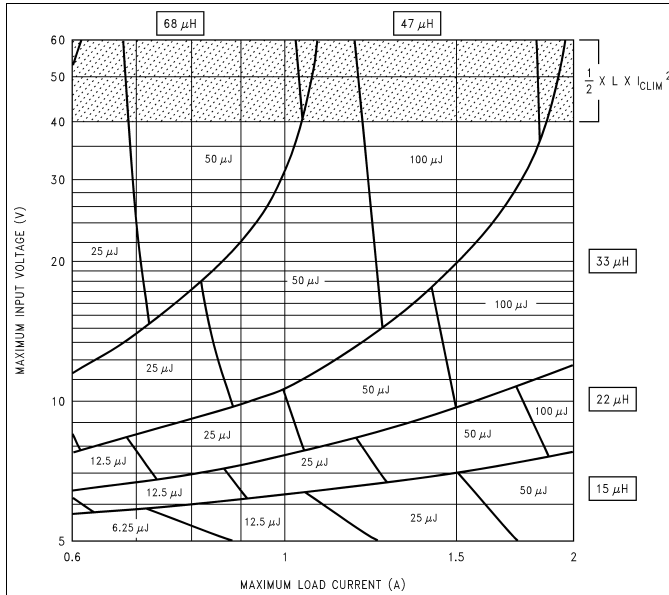
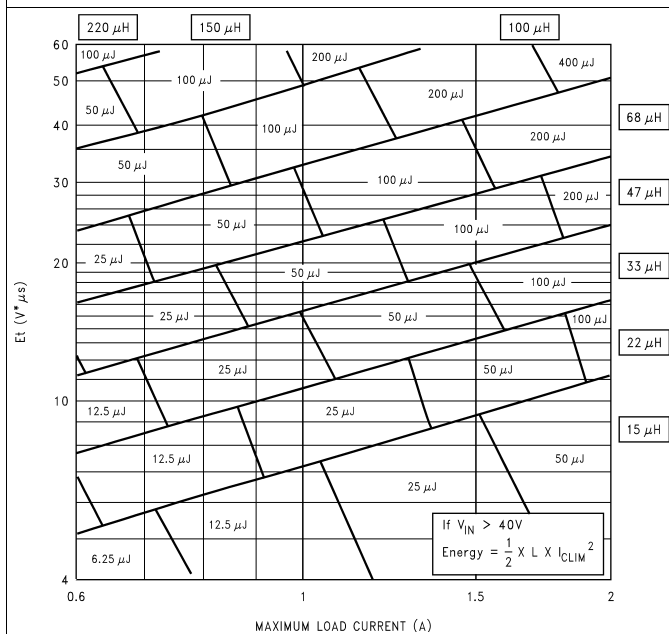

Figure 33. LM2593HV 3.3-V
Figure 35. LM2593HV Adjustable Voltage
See application note *AN-1197 Selecting Inductors for Buck Converters (SNVA038)* for detailed information on inductor selection. For a quick-start, see the nomographs provided in Figure 33 to Figure 35. To widen the choices to a more general selection of available inductors, the nomographs provide the required inductance and also the energy in the core expressed in microjoules (μJ), as an alternative to just prescribing custom parts. The following points must be highlighted:
5. Figure 35 shows the inductor selection curves for the adjustable version. The y-axis is Et , in $\text{V}\mu\text{s}$. It is the applied volts across the inductor during the ON time of the switch ($V_{\text{IN}} - V_{\text{SAT}} - V_{\text{OUT}}$) multiplied by the time for which the switch is on in μs . See Example 3.
- Because input voltage is less than 40 V, a first pass inductor selection is based upon inductance and rated maximum load current. Choose an inductor with the inductance value indicated by the nomograph Figure 35 and a current rating equal to the maximum load. But first calculate E_t for the given application. The duty cycle is Equation 5.
- Therefore, looking at Figure 33, quick-select a 47- μH , 2-A inductor (designed for 150-kHz operation) for this application.
- Confirm that it is rated to handle 200 μJ (see Figure 35) by the procedure shown in *AN-1197 Selecting Inductors for Buck Converters (SNVA038)* and that the losses are acceptable. (If the DC input voltage had been greater than 40 V, consider e_{CLIM} as in Example 2).